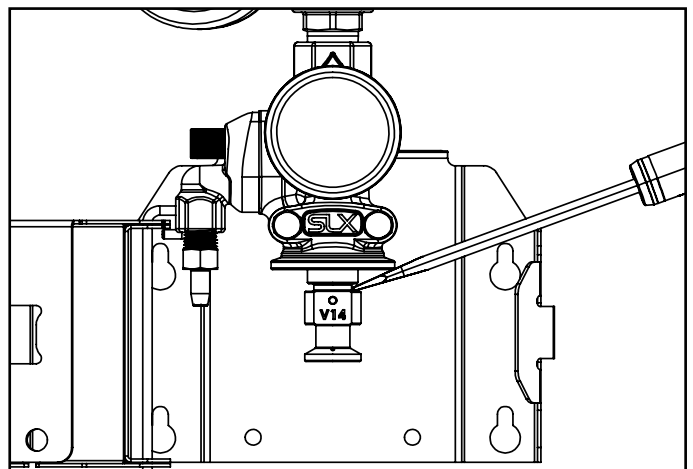

Fig. 8.3: Venturi insert removal using screwdriver
- A screwdriver can be used to pry the insert out if necessary [Fig. 8.3]